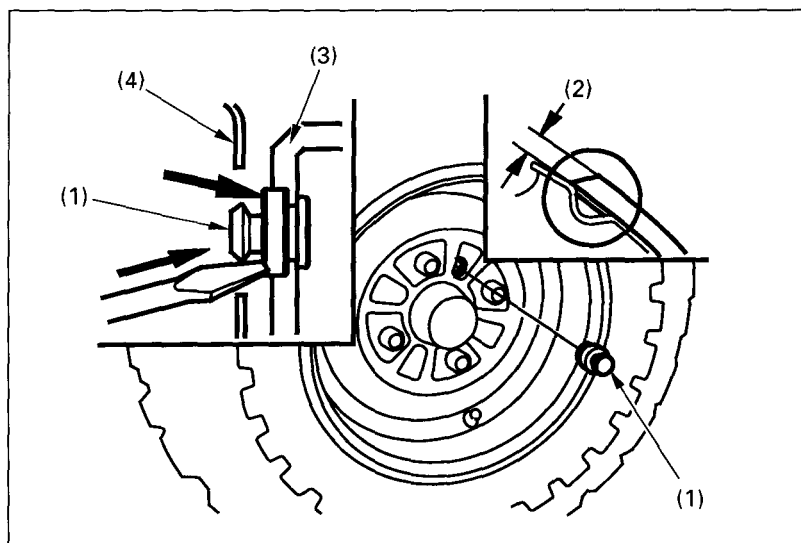
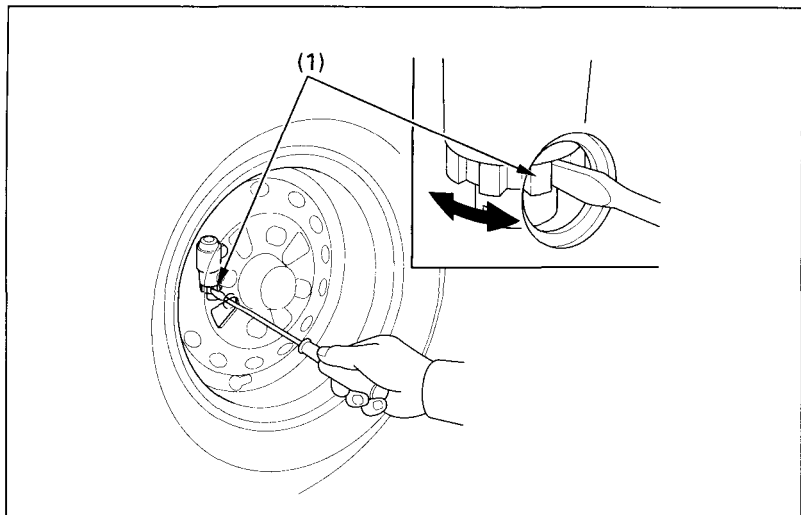

Fig. 4-26 (1) Inspection hole plug (2) Lining thickness (3) Front brake drum (4) Front wheel rim
Fig. 4-27
(1) Front brake lever
2. Remove the inspection hole plug (Fig. 4-26) and measure the lining thickness (2) on both front wheels.
3. If the brake lever free play and the brake shoe lining thicknesses are within the recommended limits, reinstall the inspection hole plugs, seating them into the inspection holes as shown in Fig. 4-26.
3. Beginning with either the left or right front wheel, remove the inspection hole plug (Fig. 4-26) and line up the hole with one of the brake adjusters (Fig. 4-27).
4. Using a screwdriver, turn the brake shoe adjuster (1) in the direction of the arrow until the front brake locks.
(1) Brake adjusters
7. Reinstall the inspection hole plug, seating it into the inspection hole as shown in Fig. 4-26.